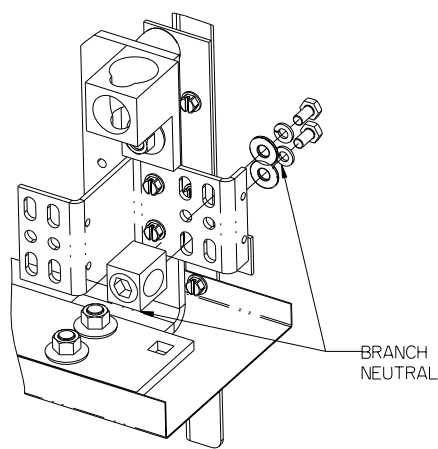

Figure 10
11. Reference fig. 10 - Installing the Branch Neutral Lug Assy. (item 21) in a Panelboard. The Branch Neutral is located at the bottom of the "Z-rails", or mirrored at the top depending upon the feed cable location. Two (2) different Neutral lug assemblies are included in the kit, be sure to install the type pictured below. The Neutral lug assemblies can be mounted, as shown, on either side of the Branch Neutral depending on cable feed location. Torque all hardware as specified on the rear of the deadfront.